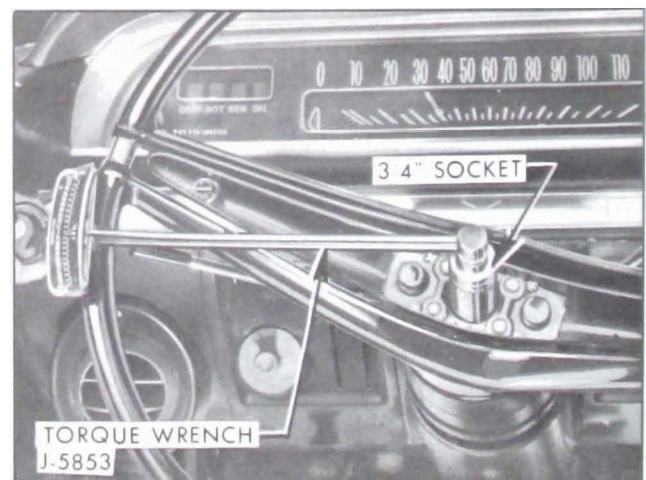

Figure 8-28 -Checking Adjustments in Car
4. Turn steering wheel to extreme right or left position. Attach torque wrench J-5853 to steering wheel retaining nut and check the torque required to turn the wheel steadily in the range where lash normally exists between rack-piston nut and pitman shaft sector. See Figure 8-28: The lash range exists for one-eighth turn of steering wheel from either extreme position.